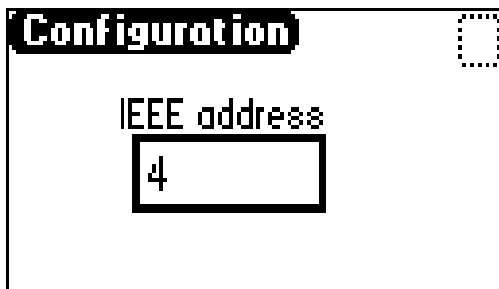

Figure 3-12 First Configuration Screen
1. Press **1** on the Configuration Menu screen. The first of three Configuration screens appears (Figure 3-12).